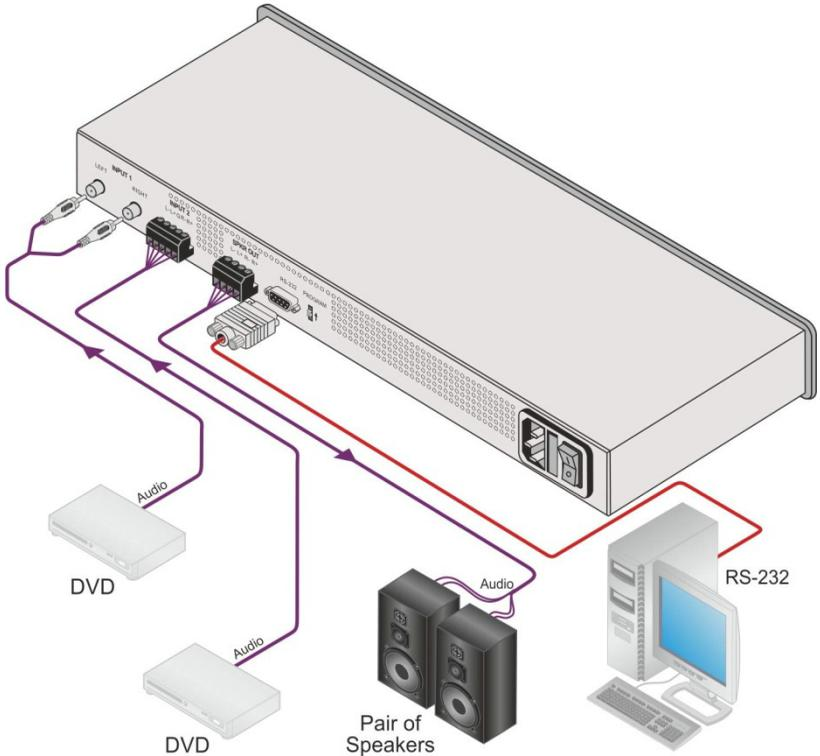

Figure 2: Connecting the 905xl Power Amplifier
To connect the **905xl Power Amplifier** as illustrated in the example in Figure 2:
4. Connect the power cord to the power socket and connect the cord to the mains electricity (not shown in Figure 2).